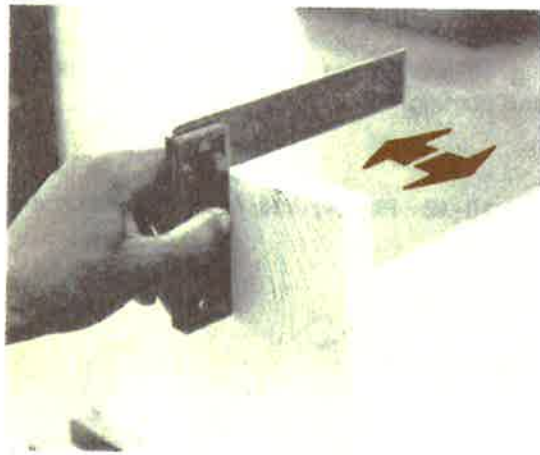
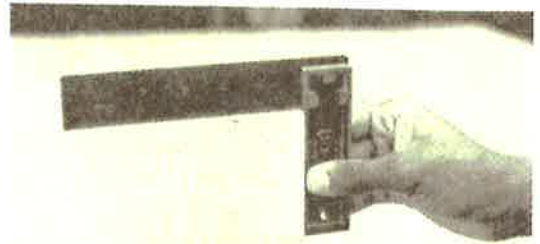

Fig. 10-14. Testing squareness of an end to the surface.
Fig. 10-15. Testing squareness of an end with a try square.
5. Test the end for squareness to the working face (see Fig. 10-14). Test it for squareness to the planed edge (see Figs. 10-15 and 10-16). This may be done with a try square on a narrow board or with a framing square on a wider one.